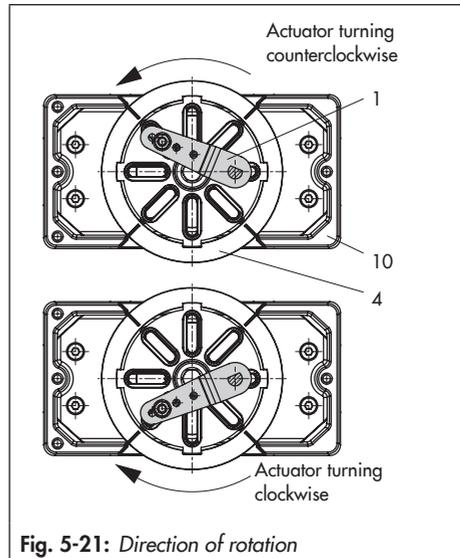

Fig. 5-21: Direction of rotation
4. Fasten coupling wheel (4) on the slotted actuator shaft or adapter (3) using screw (4.1) and disk spring (4.2).
5. Unscrew the standard follower pin (2) from the positioner's M lever (1). Attach the follower pin (Ø5 mm) included in the mounting kit to pin position 90°.
6. Place positioner on housing (10) and screw it tight. Taking the actuator's direction of rotation into account, adjust lever (1) so that it engages in the correct slot with its follower pin (see Fig. 5-21).